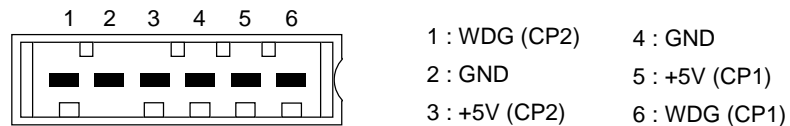

Figure 2 Pin connections of RCN-x
- ten connectors (RCN-1 to RCN-10) for connecting redundant I/O backplanes (10315/1/1) (see Figure 2),
Figure 2 below shows the pin connections of the RCN-x connectors, which are used to connect redundant I/O backplanes.